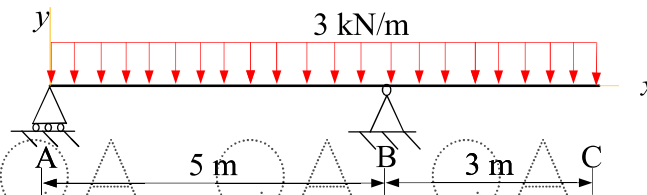

Fig.3
5. Construct the shear-force and bending moment diagrams for the over-hanging beam carrying uniformly distributed load of 3 kN/m over the entire length as shown in Fig.3. Clearly differentiate straight-line and curved portions of the diagrams. Also locate the point of contraflexure. [10]